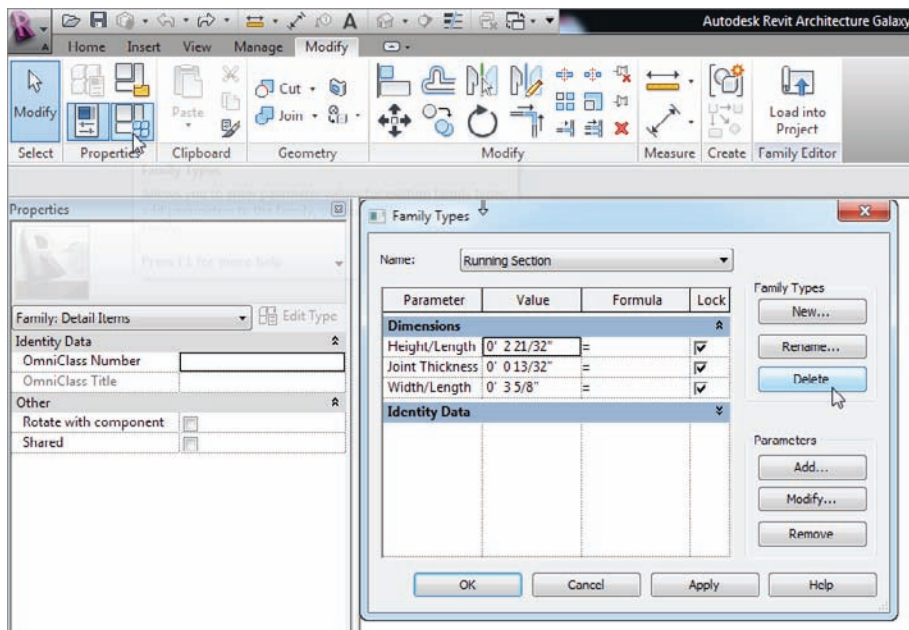

FIGURE 12.17 Cleaning out the extra types
3. Click the Family Types button, as shown in Figure 12.17.